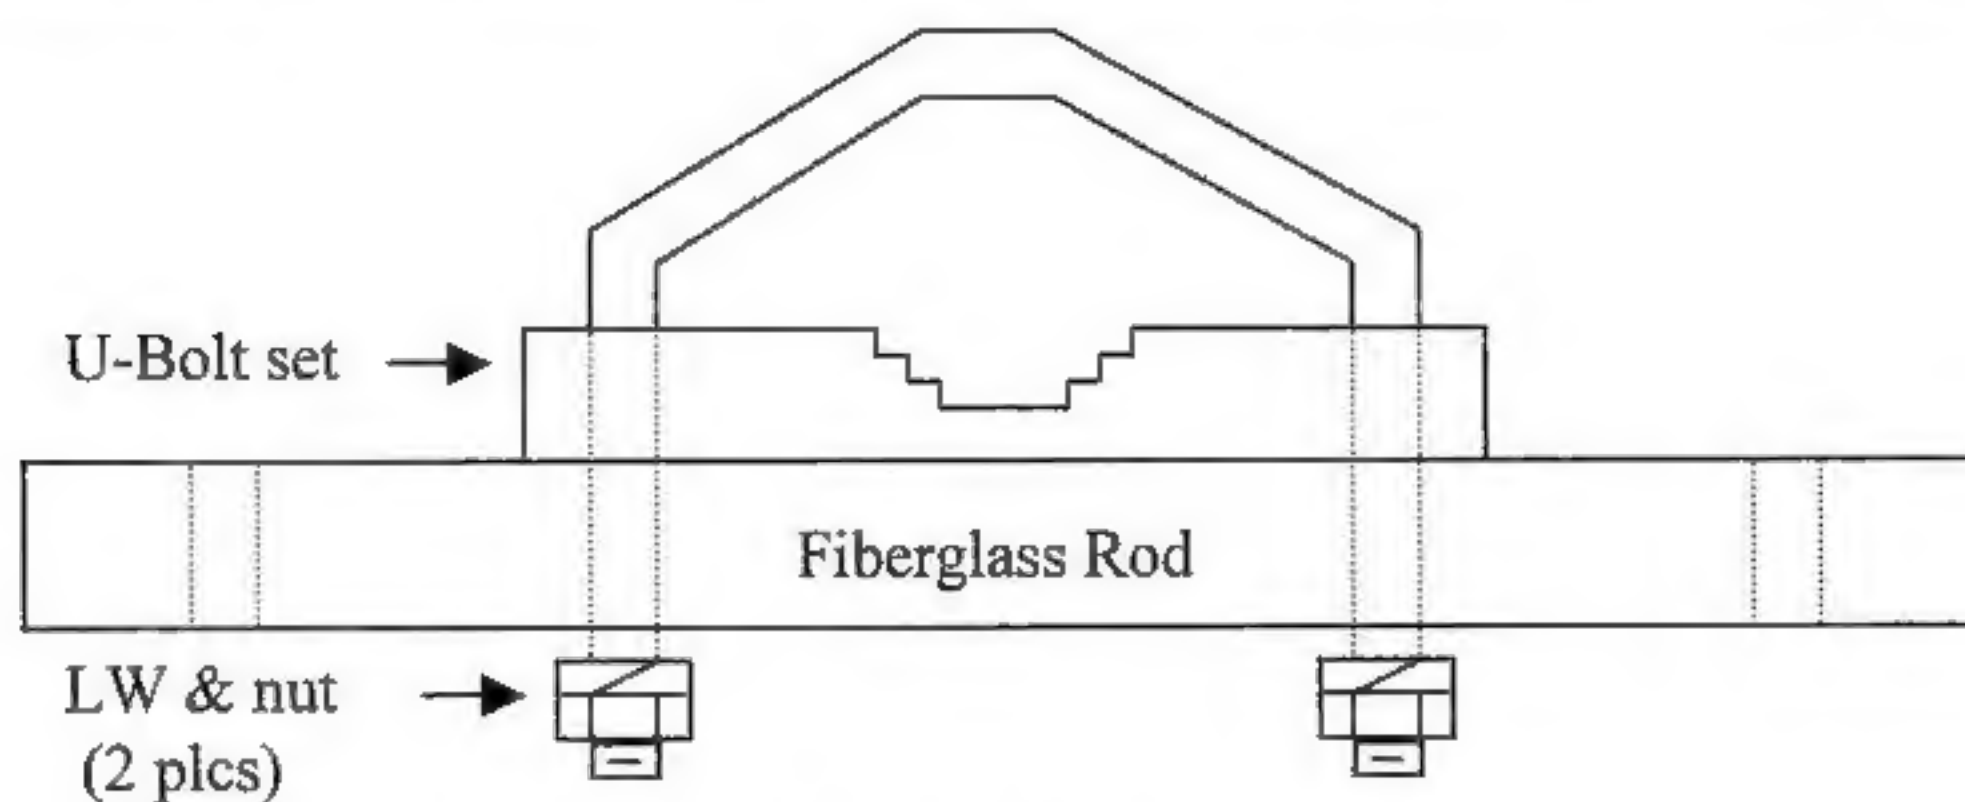

Figure 1: Center Insulator Assy – Top View
- 3) Loosely assemble the U-bolt set to the 1-1/4" fiberglass rod using supplied hardware. The nuts will be tightened when the antenna is mounted on the mast. See Figure 1.